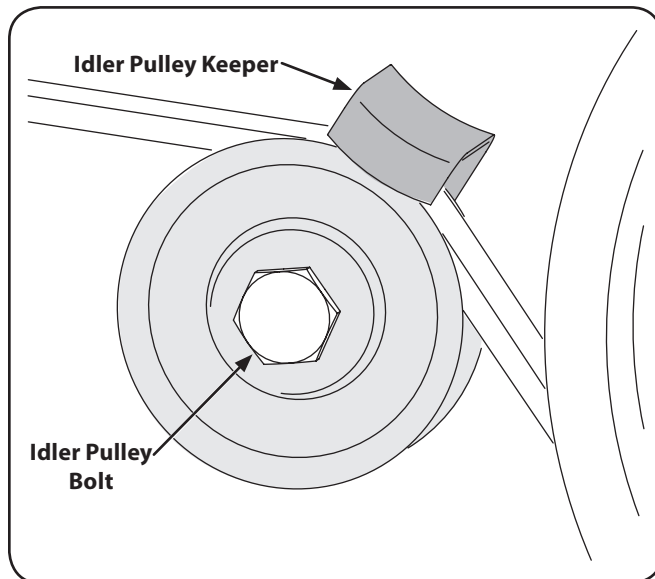

Figure 7-4
3. Remove the idler pulley bolt and move the belt from under the idler pulley keeper. See Fig. 7-4.
NOTE: Upon reassembly, make certain that the idler pulley keeper is as shown in Fig. 7-4. Take note of the notch on the bottom of the keeper and the alignment when reassembling with the replacement belt.